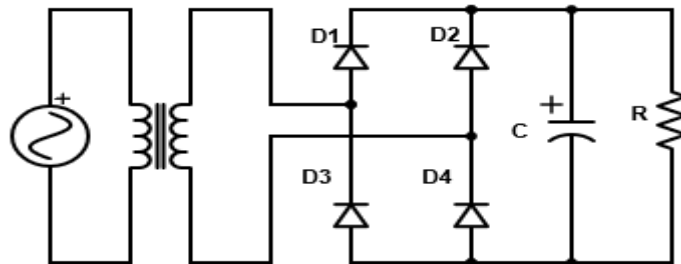

Fig. 8.1 Diode bridge rectifier
The circuit diagram of diode bridge rectifier circuit is given in Fig. 8.1. During the positive half cycle of the input voltage, the load current flows from the positive input terminal to the negative through D₁, R_L and D₄. During this time, the positive input terminal is applied to the cathode of D₂ and D₃, so it is reversed biased. These two diodes are forward biased during negative half cycle; D₁ and D₄ are reverse biased. And finally both half cycles are rectified and the output is unidirectional voltage. In order to convert unidirectional to ripple free/reduced ripple DC voltage filters are used. The size of the filter depends on load current, line frequency, ripple factor. In other words, the ripple content depends on the load current and capacitor values. Hence, in this experiment ripple contents are measured for different load resistor and filter capacitor values.
1. Connect the circuit as per the circuit given in Fig. 8.1 without capacitor.
- Connect the circuit as per the circuit given in Fig. 8.1